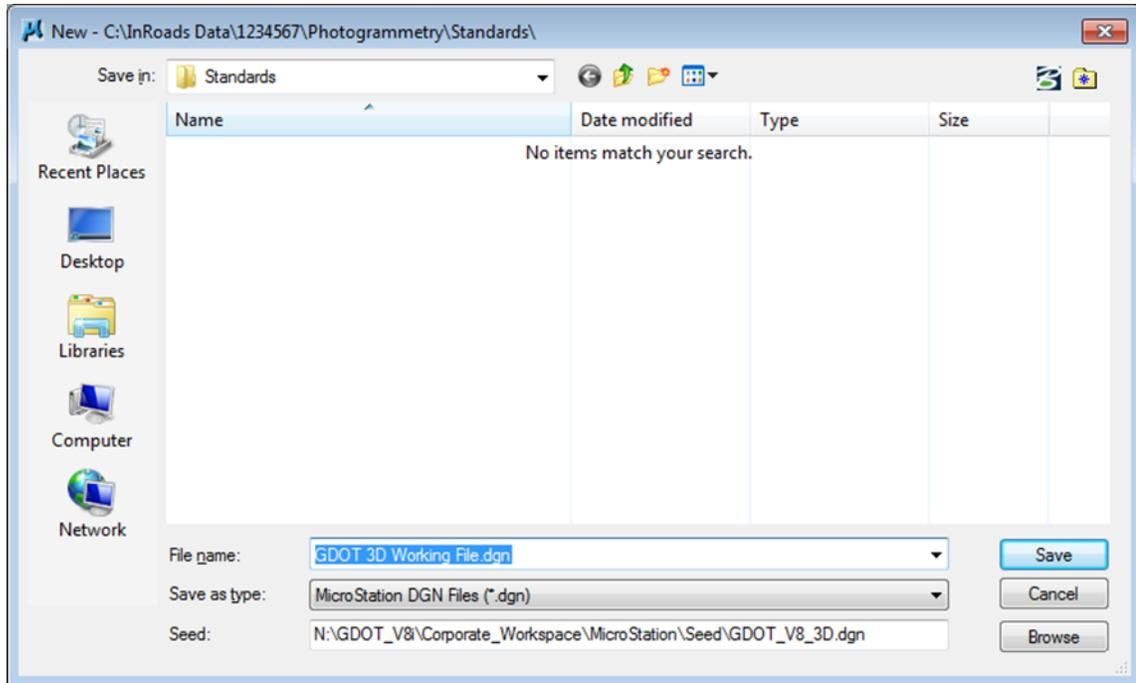

Figure 1-2 MicroStation New File Window
- After the **New File**  command is selected, the **MicroStation New File** dialog box will open. (See *Figure 1-2*).
The inputs should now correspond to the screen capture depicted in *Figure 1-2* (as shown below).